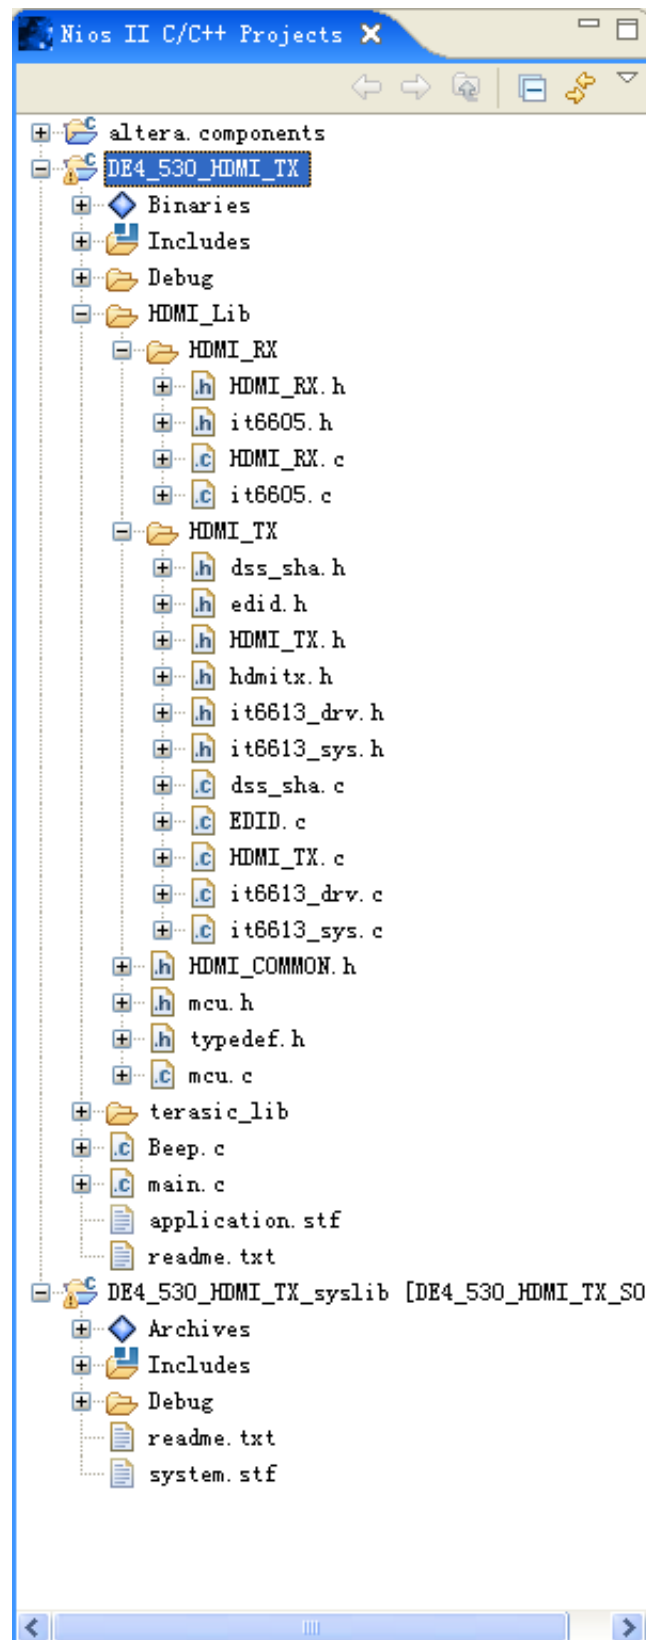

Figure 4-3 Nios II Program File List
**Figure 4-3** shows the file list of the Nios II program. The control center is located in `main.c`. The `beep.c` includes audio raw data for generating a tone sound. The folder named `terasic_lib` includes the I2C driver. The folder named `HDMI_Lib` includes transmitter and receiver drivers. The platform-dependent functions are located in `mcu.c` under `HDMI_Lib`.